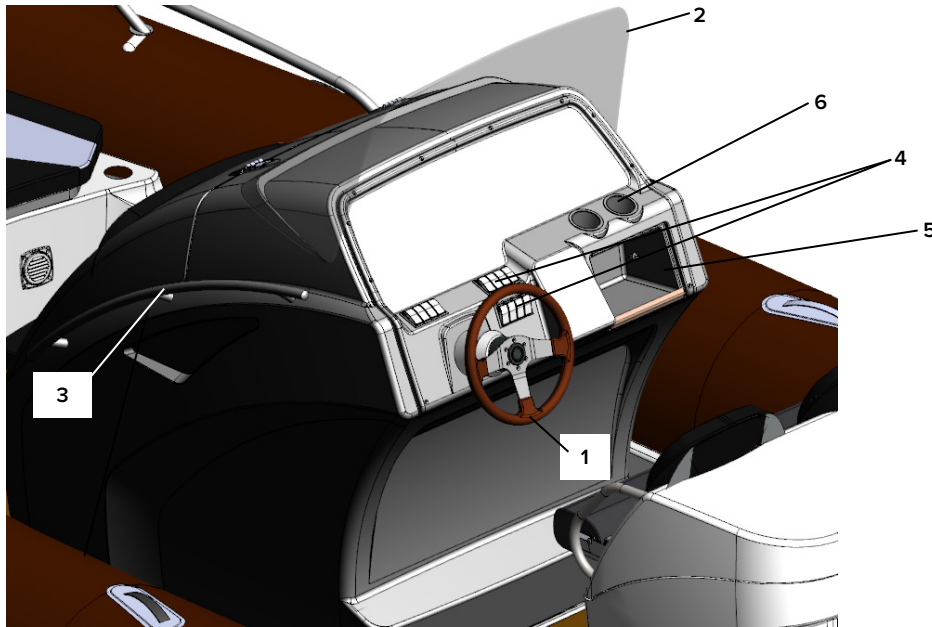

Fig. 53. Steering console components (see the list on the next page).
***Steering console components*** (see fig. 53 on the previous page):
**Steering wheel (1)**
**Windshield (2)**
**Handrail (3)**
**Switches (4):**